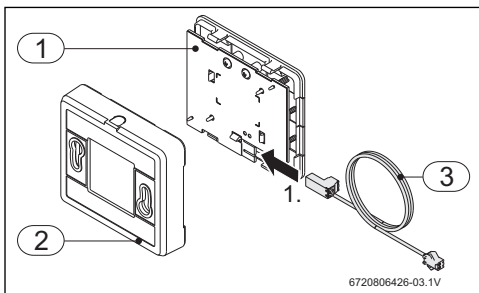

Fig. 7
- Connect the larger connector to the controller in the position shown in Fig. 7.